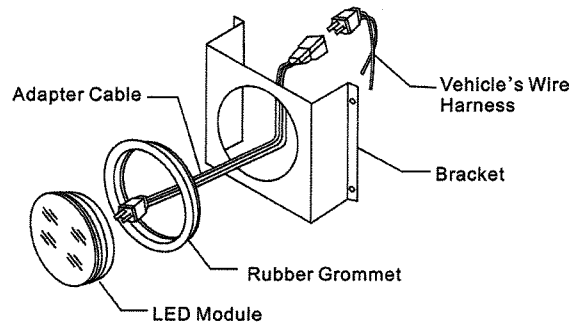

Figure2.
- e) Connect the adapter cable, see figure 2,3,4,
- i. The 4" & 6" light using rubber grommet, see figure 2.